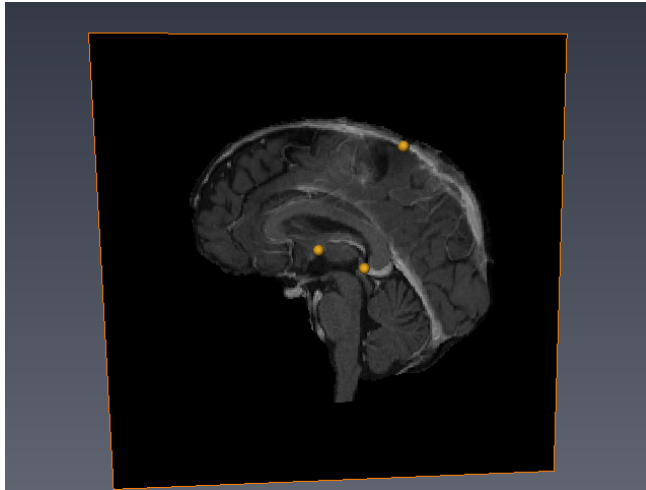

Figure 14.3: Rendering of a yz-slice through the brain with the selected landmark locations indicated by three golden spheres.
- Click on one of the landmark buttons in the *Select* port of the *Convert Talairach Properties* and make a new selection on the slices through the brain (Fig. 14.3).